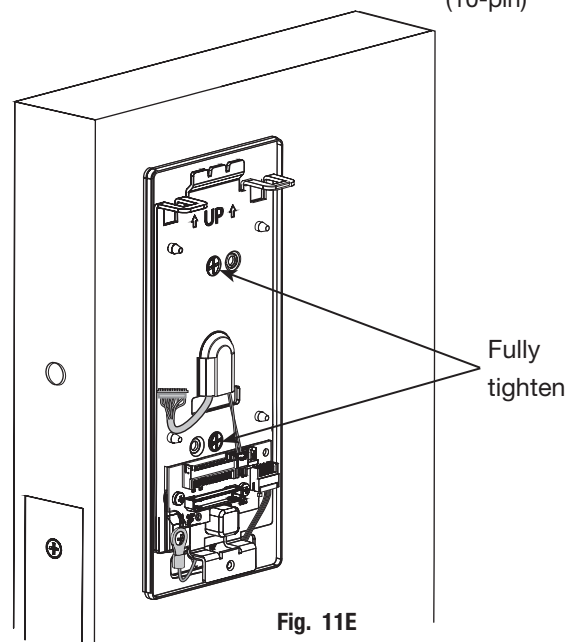

Fig. 11E
- D. Secure the mounting assembly while ensuring proper alignment of outside reader and tighten the (2) through-bolts on the inside of the door to secure the reader (Fig. 11E).